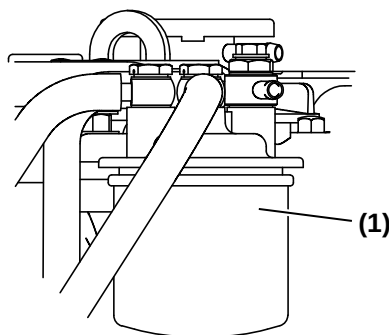

Figure 13
- 2. Remove the cartridge filter **(Figure 13, (1))** with a filter wrench.